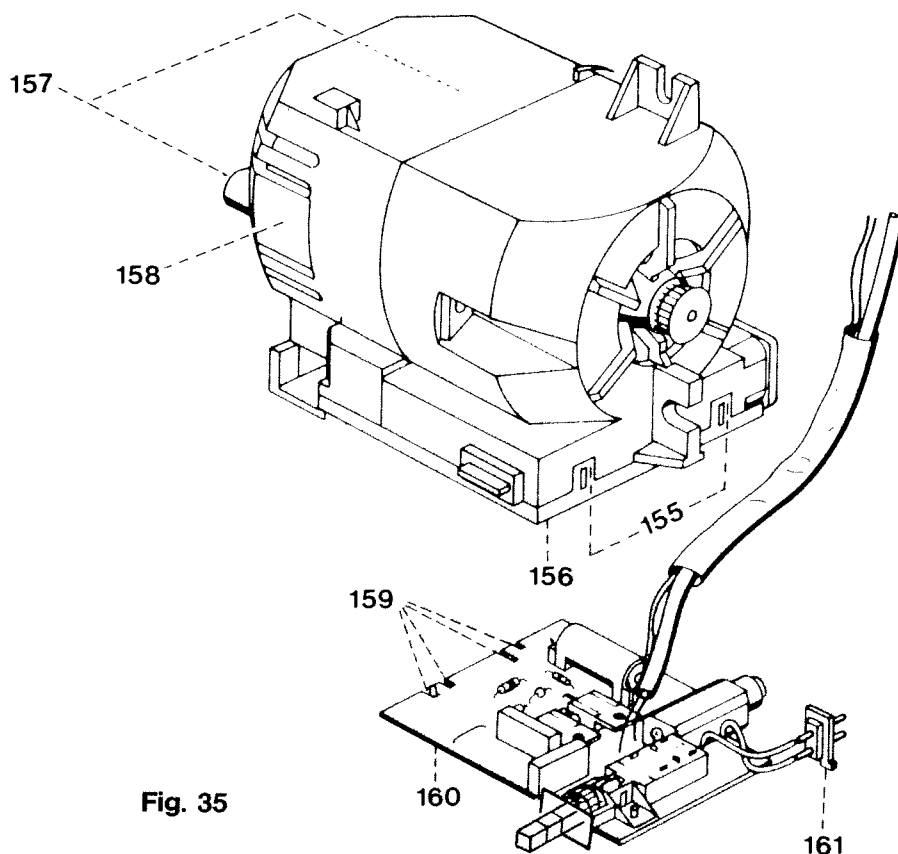

Fig. 35
- Raise the two locking tabs 155 only a little and remove cover 156 (Fig. 35).